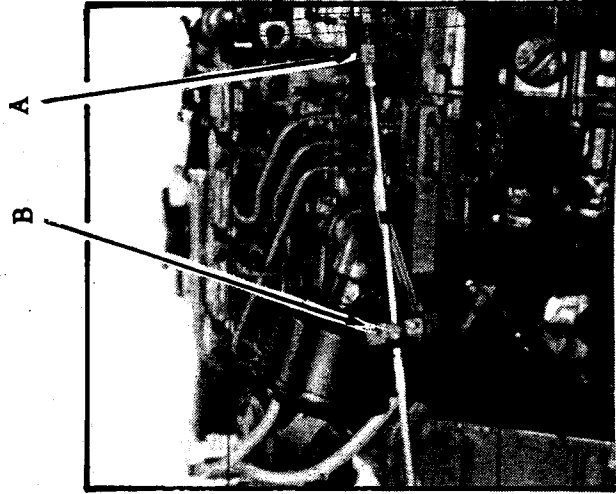

Figure 7
Connect control cable to the ball-joint fitted to the lever (A) and position the cable with the clamp (B). Adjust in a way that gas is not delivered until the inverter gear is engaged (Fig. 7).